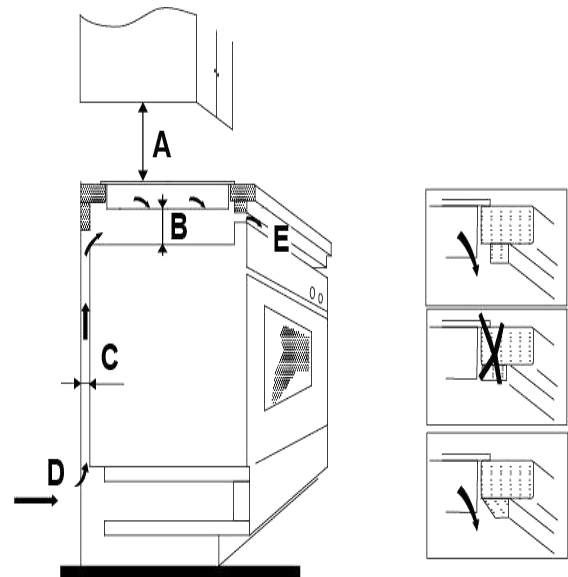

Fig 4.2
- There must be a distance of at least 760 mm between the hob and any wall cupboard or extractor hood positioned immediately above (see fig. 4.2)